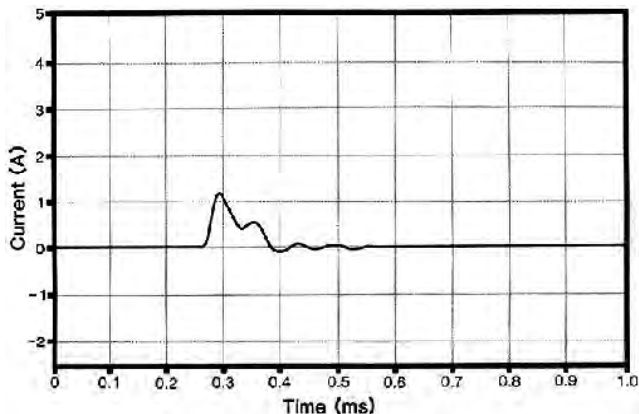

FIGURE 29. Dry Condition Current Output.
**Shock Intensity:** Current output for dry and wet conditions are shown in FIGURES 29 and 30.